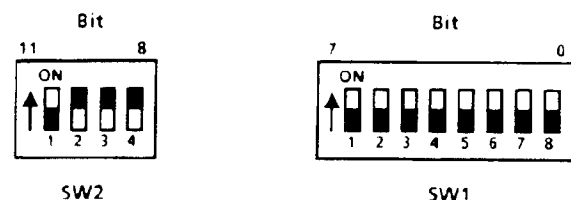

Figure 4.1 - Address Switch Layout
Figure 4.1 shows the layout of the Address Switches.
Figure 4.1 shows the address switches set to logical '1' for bits 8 (256), 9 (512), and 10 (1024) giving a module address of 1792 (256 + 512 + 1024).